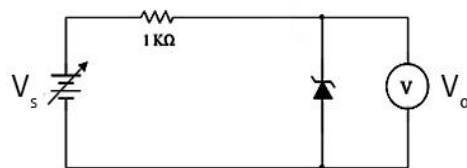

Figure 10 : Simple zener diode circuit
- I. Connect the circuit as shown in Figure 10, the power supply is set to zero volts.